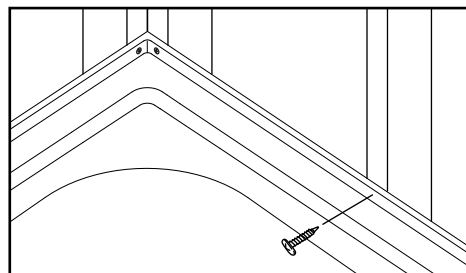

FIGURE 4. Run a screw through bathtub flange at each stud location.
- If alcove is larger than shower base, shim between shower base and studs to create a tight fit. After shower base is leveled, verify that all shower base feet make contact with the sub-floor and/or shims. Screw shower base flange to all studs (Fig. 4).